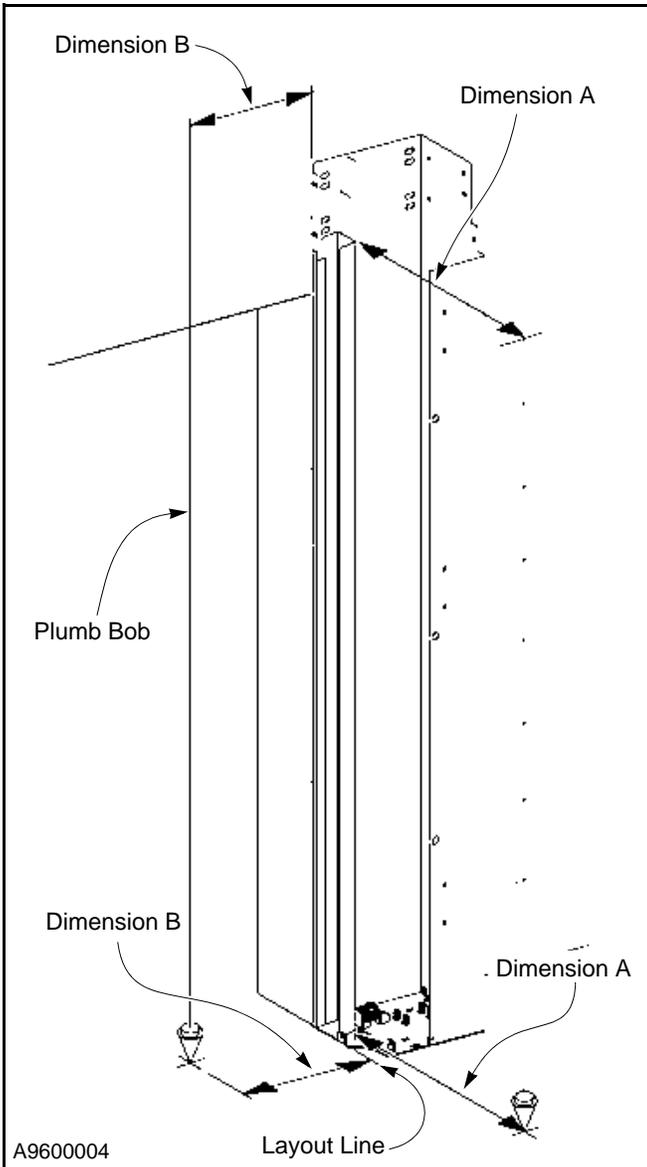

Figure 13
- 2. Stand the side column assembly on the floor, with the back of the column firmly against the wall. (See Figure 13.)
To check for plumb, measure a few inches away from the face of the side column, near the top (Dimension A), and drop the plumb bob. (See Figure 13.)
Also, measure a few inches away from the side of the column, near the top (Dimension B), and drop the plumb bob. (See Figure 13.) Mark the floor where the plumb bob touches. Compare the upper measurement to the lower measurement. Lean the column to the left or the right until the two measurements are equal and the column is plumb with the floor (or shim plate).